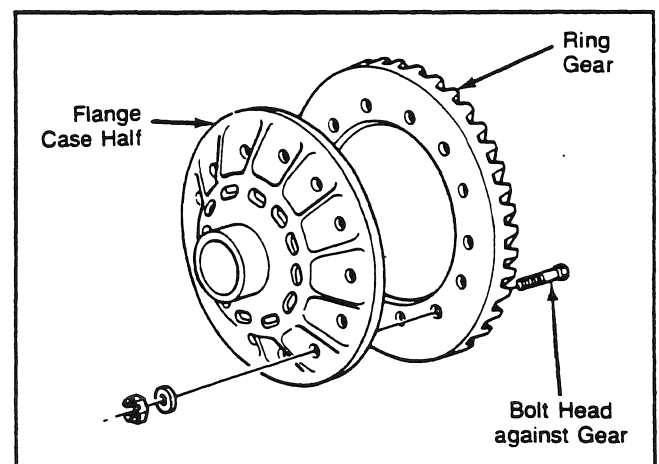

Fig. 52
3. Align the bolt holes of the ring gear and flange case half. Install the bolts and nuts retaining the ring gear to the flange case half. Install the bolts from the gear side of the assembly. The bolt heads **must** be against the ring gear (see Fig. 52). Tighten the nuts to the specified torque.